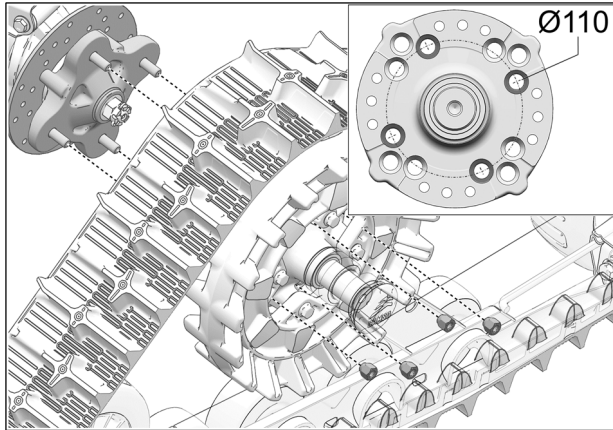

Fig. 10
9. Secure undercarriage to rear hub using the vehicle's lug nuts. Use bolt circle  $\text{\O}110$  mm. See Fig. 10